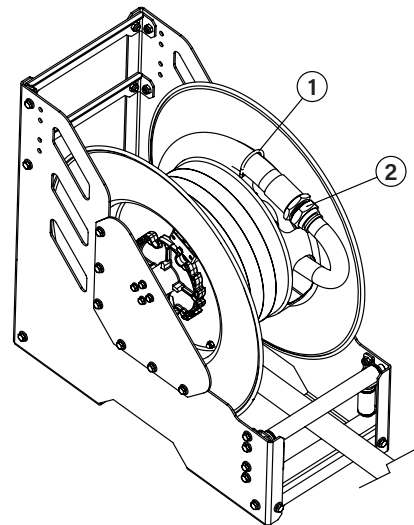

Fig. 5
2. Connect the new hose to the gooseneck (2), place the U-bolt (1) (Fig. 5) in such a way that it firmly holds the hose against the spool, and start to wind the hose into the spool turning the spool manually.
2. Remove the U-bolt (1) by loosening its nuts and disconnect the hose from the gooseneck (2) (Fig. 5).